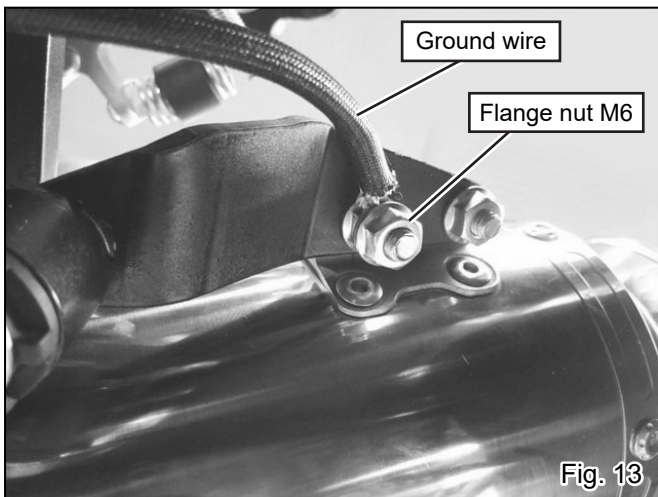

Fig. 13
- 11) Attach ground wire on Button Bolt M6x25 thread and hold it with another Flange Nut M6 (See Fig. 13 & 14). Tighten and torque Flange Nut M6.